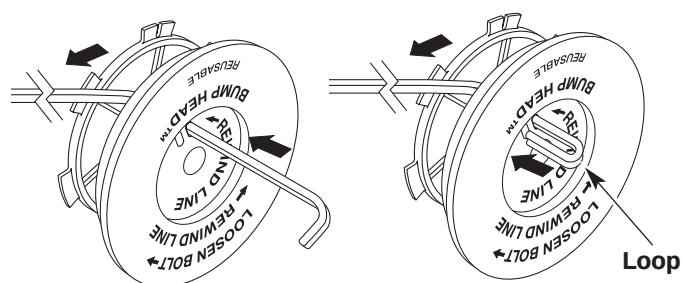

Fig. 30
- Take approximately 10 feet (3 m) of new trimming line. Insert one end of the line through one of the two holes in the inner reel (Fig. 30). Pull the line through the inner reel until only about 4 inches is left out.
- Insert the end of the line into the open hole in the inner reel and pull the line tight to make the loop as small as possible (Fig. 30).